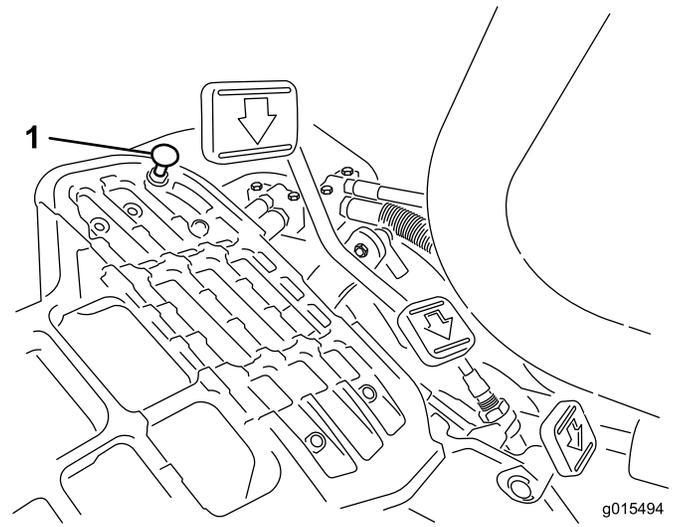

Figure 32
To obtain the maximum-transport speed, put the functional control lever in the TRANSPORT position and press down on the traction pedal. If the pedal contacts the stop (Figure 32) before you feel tension on the cable, perform the following adjustment procedure:
1. Put the functional-control lever in the TRANSPORT position and loosen the locknut securing the pedal stop to the floor plate (Figure 32).